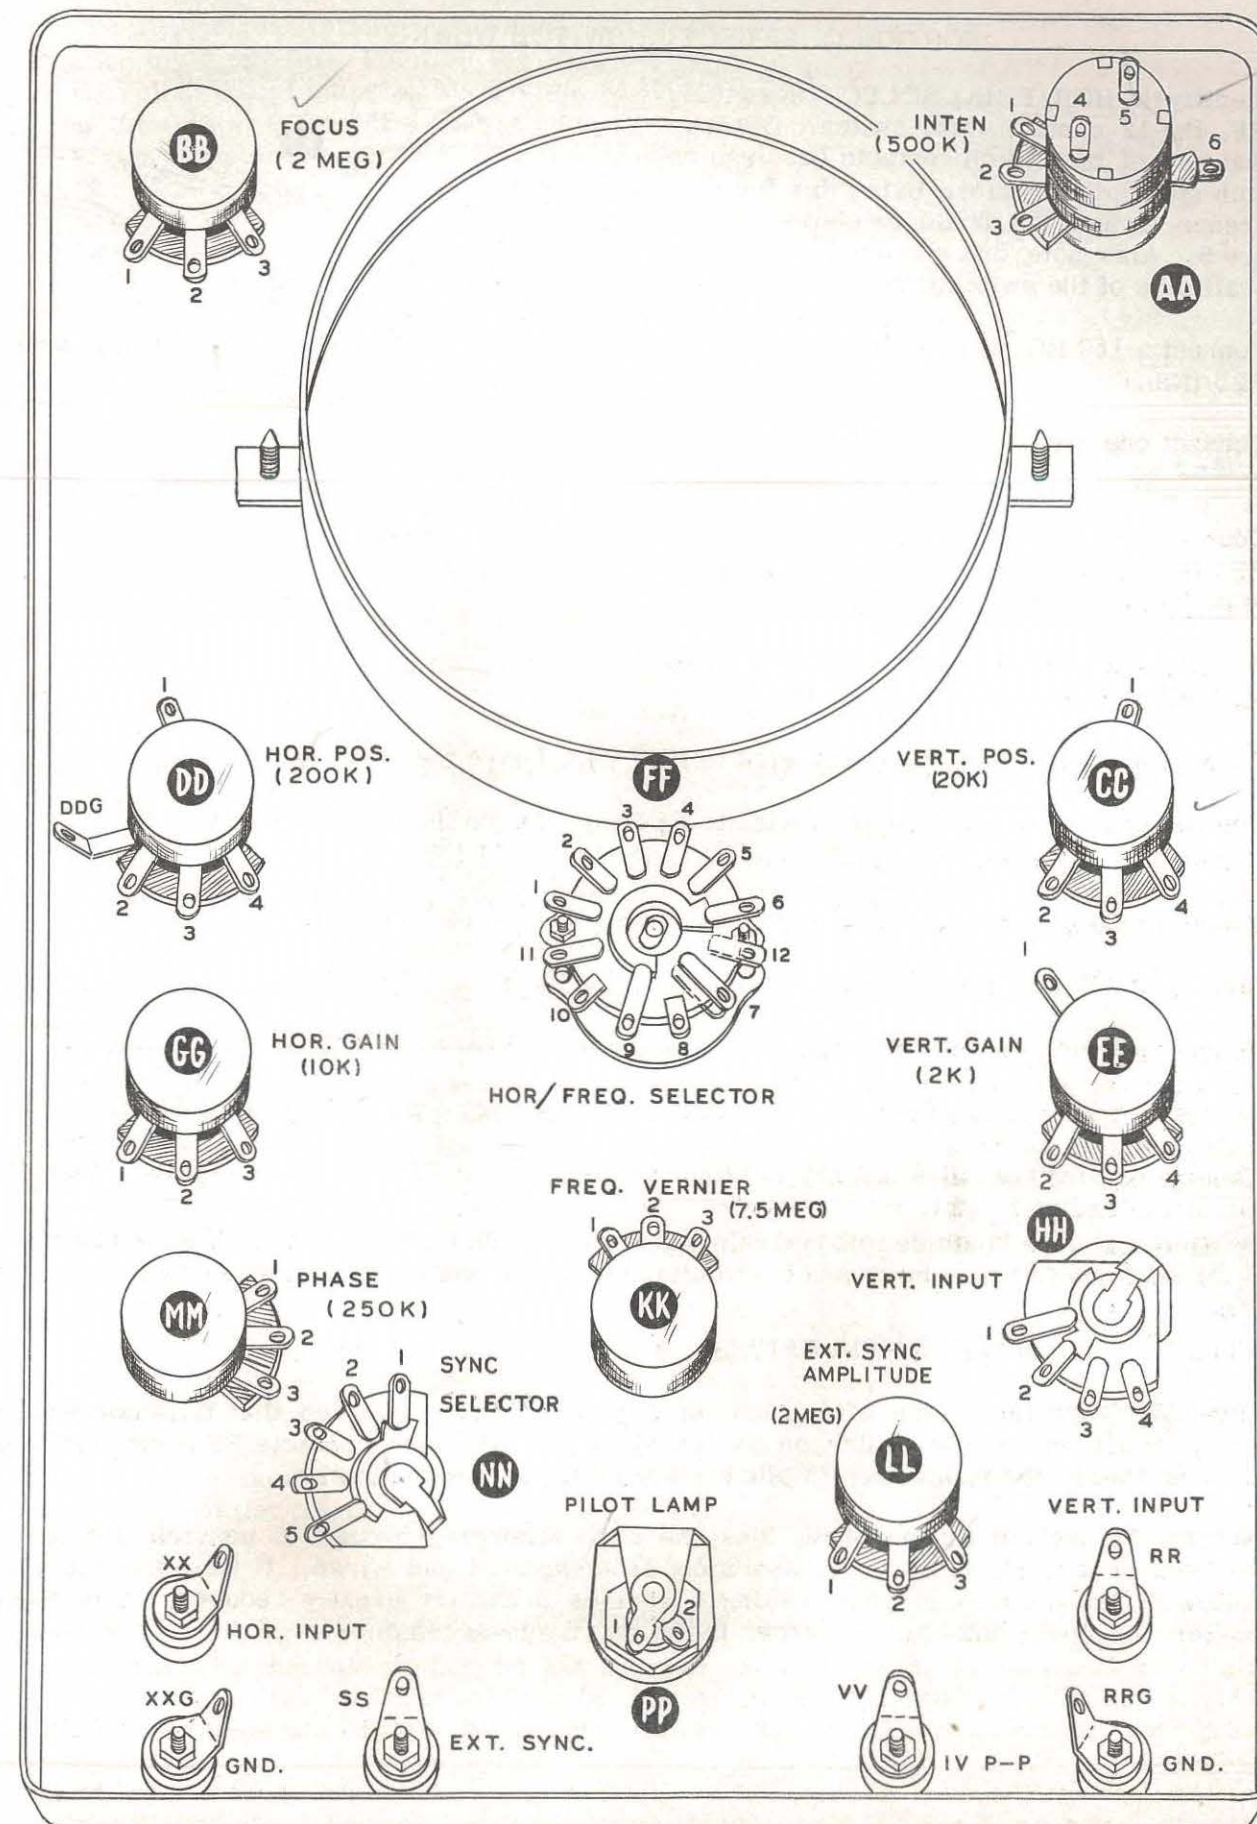

Figure 8
- (✓) Mount the 500 K Ω INTEN. control AA on the back of the panel, locating the terminals as indicated in Figure 8. Follow Figure 4 for assembly details.
- (✓) Mount the 250 K Ω PHASE control at MM, locating the terminals as shown in Figure 8.
- (✓) Install the 5-terminal SYNC. SELECTOR wafer switch at NN, being sure the terminals are oriented as shown in Figure 8.